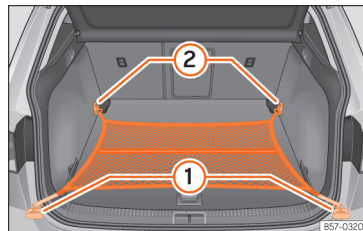

Fig. 178 In the boot: net bag hooked up at floor level.
- As applicable, lift the front fastening rings »» Fig. 178 ②.
- Secure the net hooks to the fastening rings ② »» ⚠. The bag zip should be facing upwards.
- Secure the net hooks to the fastening rings ①.